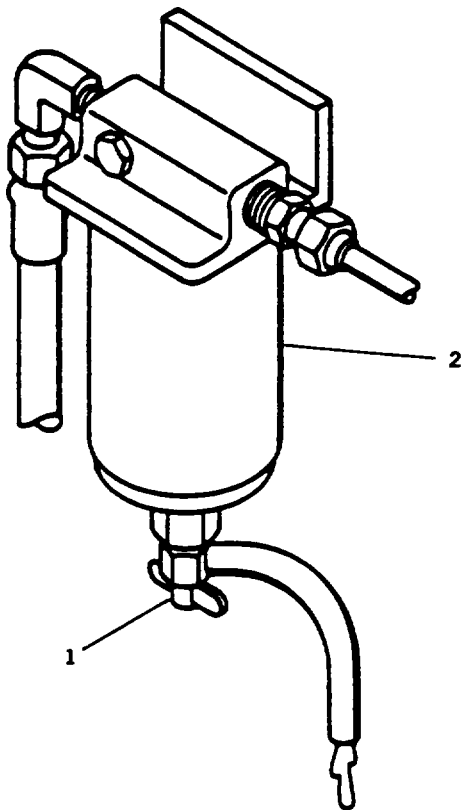

FIGURE 3-2. Draining Fuel Filter/Water Separator
- c. Inspect fuel filter/water separator assembly (Figure 3-2) for proper mounting, cracks, dents, leaks, loose fuel lines and other damage.
- d. Open fuel drain cock (1, FIGURE 3-2) on fuel filter/water separator housing (2) and drain contaminants into a suitable container.
3-3.6 Fuel Filter/Water Separator (FIGURE 3-2).